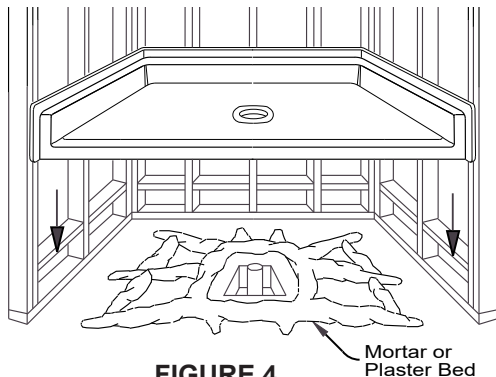

FIGURE 4
3. Apply a grid pattern of mortar or plaster to the sub floor in the alcove. With the drain receptor passing over the waste pipe slowly lower the shower base into place. Push down firmly until the base is level in all directions. See Figure 4.